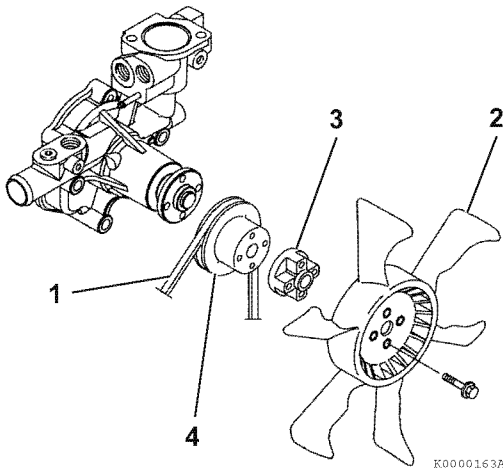

Figure 7-5
2. Remove the engine coolant fan guard (if equipped), engine coolant fan (2, **Figure 7-5**), spacer (3, **Figure 7-5**) if equipped, V-pulley (4, **Figure 7-5**) and cooling fan V-belt (1, **Figure 7-5**).